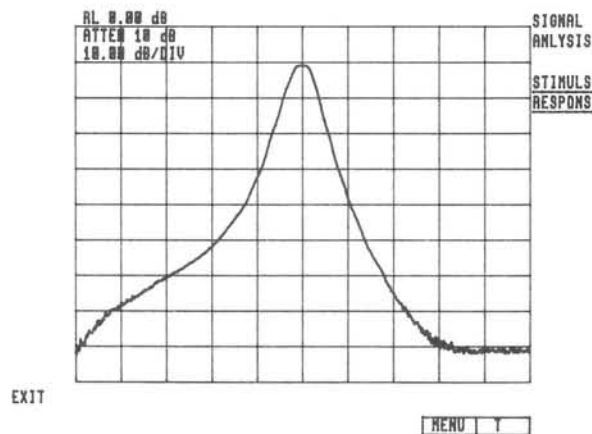

Figure 1-40.
◀ STIMULS RESPON ▶ is active when underlined as in Figure 1-40. When active, ◀ STIMULUS RESPON ▶ activates the stimulus-response auto sweep time (which is typically valid for devices when the system's span is less than 20 times the bandwidth of the device).
Activating ◀ STIMULS RESPON ▶ and either of the math function softkeys (◀ A - B --> A ▶ or ◀ A - C --> A ▶), activates *relative amplitude mode*. When the system enters relative amplitude mode, the reference level is set to 0 dB and the following functions are displayed in dB units: amplitude unit conversion (AMPU), display line (DL), measurement unit conversion (MEASU), marker amplitude (MK), reference level (RL), threshold (TH), and trace data input/output (TRA/TRB/TRC). For example, the reference level in Figure 1-40 is set to "RL 0.0 dB." (For more information, see "MEASURE" in the HP 71000 Language Reference.)